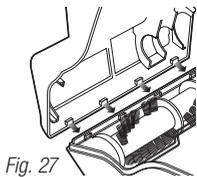

Fig. 27
- To reassemble, insert the tabs on the front edge of the bottom cover into the matching holes in the top half and tilt it back down until it clicks into place. (Fig. 27)